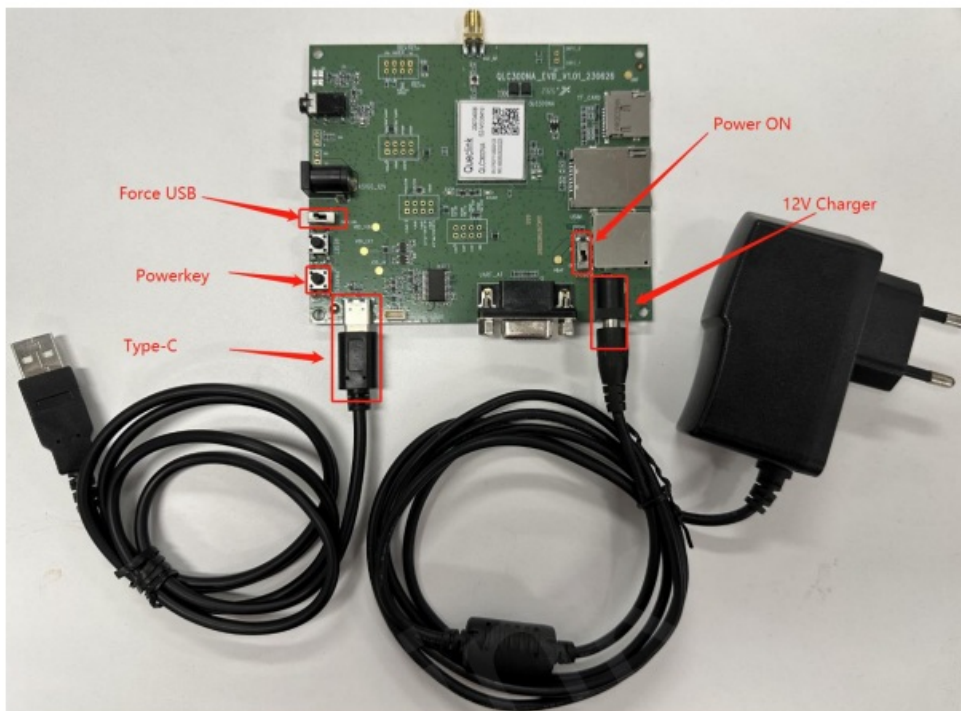

Figure 8. Upgrade the Firmware
Step 2: Switch the Power to ON position and the Force_USB to low as Figure 8 shows.